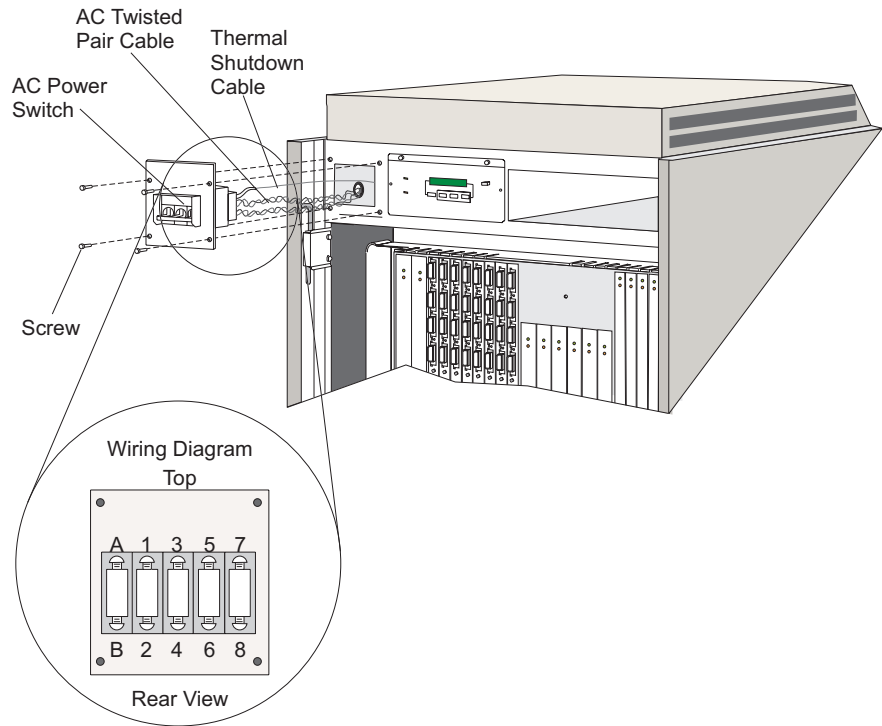

Figure 3-37. AC Power Switch
- a. Insert the terminal beneath its screw. Refer to the wiring diagram in Figure 3-37 on page 3-78.
Use the following procedure to remove the ac power switch. Refer to Figure 3-37 on page 3-78.
3. Identify the ac power switch. Refer to Figure 3-37 on page 3-78.
5. Remove all cable terminals from the ac power switch. Refer to the inset in Figure 3-37. For each cable terminal:
Use the following procedure to replace the ac power switch. Refer to Figure 3-37.
- a. Insert the terminal beneath its screw. Refer to the wiring diagram of terminals in Figure 3-37.
Note: Cable wires are labeled for correct attachment to terminals. Refer to wiring diagram in Figure 3-37 for matching numbers on terminals.